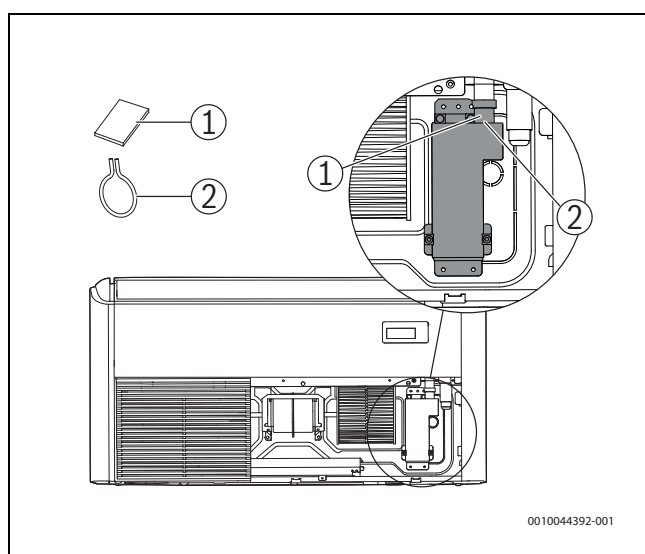

Fig. 23
- ▶ Remove the sponge (→ Fig. 23 [1]) attached at the water drainage outlet, then remove the clamp spring (→ Fig. 23 [2]).
- ▶ Remove the caps of the valves of a connection pair (→ Fig. 23 and 113, [1], [2] and [3]).